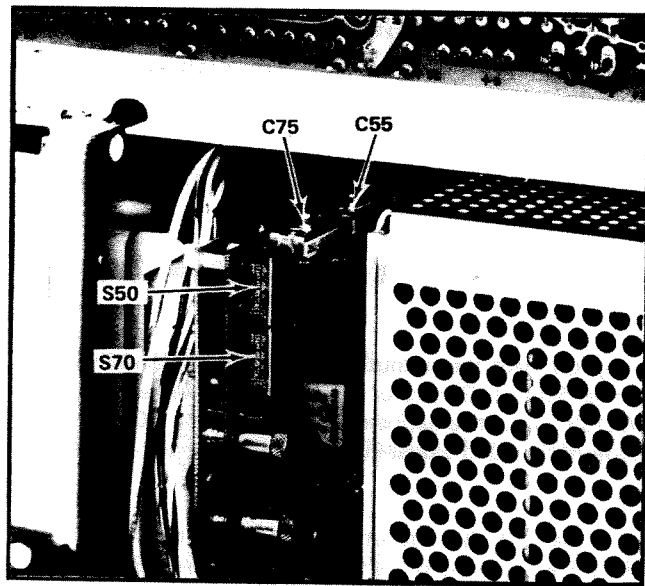

Fig. 5-22. Location of C55, C75, S50 and S70.
- j. Set the Delay Disable switches S50 and S70 (see Fig. 5-22) to their In positions.
- l. ADJUST—C55 (see Fig. 5-22) for an eye opening of 0.28 division or less.
- p. ADJUST—C70 (see Fig. 5-22) for an eye opening of 0.28 division or less.